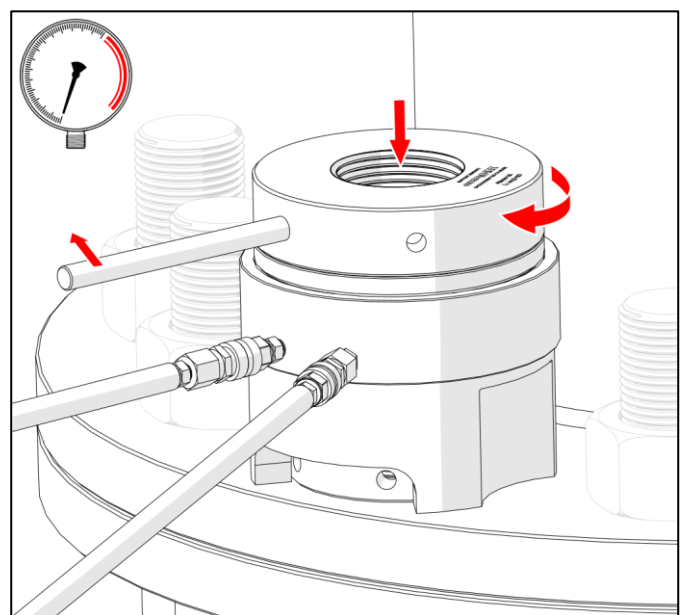

Figure 6.3 - Retracting the Piston
6.5 Retracting the Piston/s. (Figure 6.3)